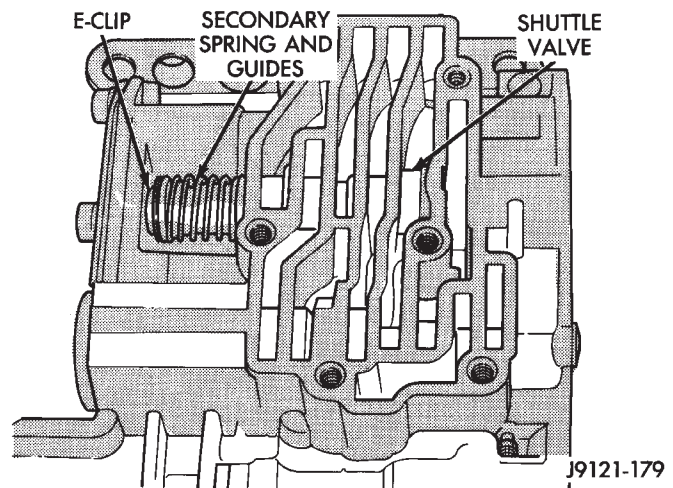

Fig. 52 Shuttle Valve E-Clip And Secondary Spring
(22) Remove shuttle valve E-clip and remove secondary spring and spring guides from end of valve (Fig. 52).